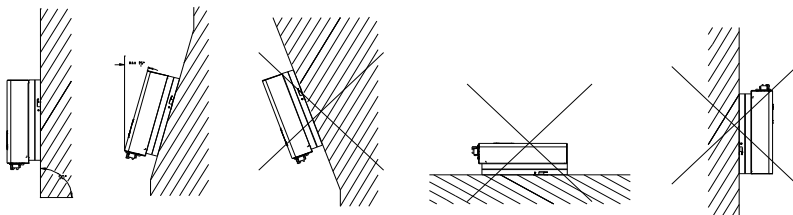

Figure 4.1 Mounting Method
Please mount the inverter correctly as shown in Figure 4.1 below.
(2)Please install the equipment under the guidance of Figure4.1. Vertical installation on floor level is recommended. Mount vertically or tilted backwards by max. 15°. Never install the inverter tilted forwards, sideways, horizontally or upside down.
(3) Install the inverter at eye level for convenience when checking the LCD display and possible maintenance activities.